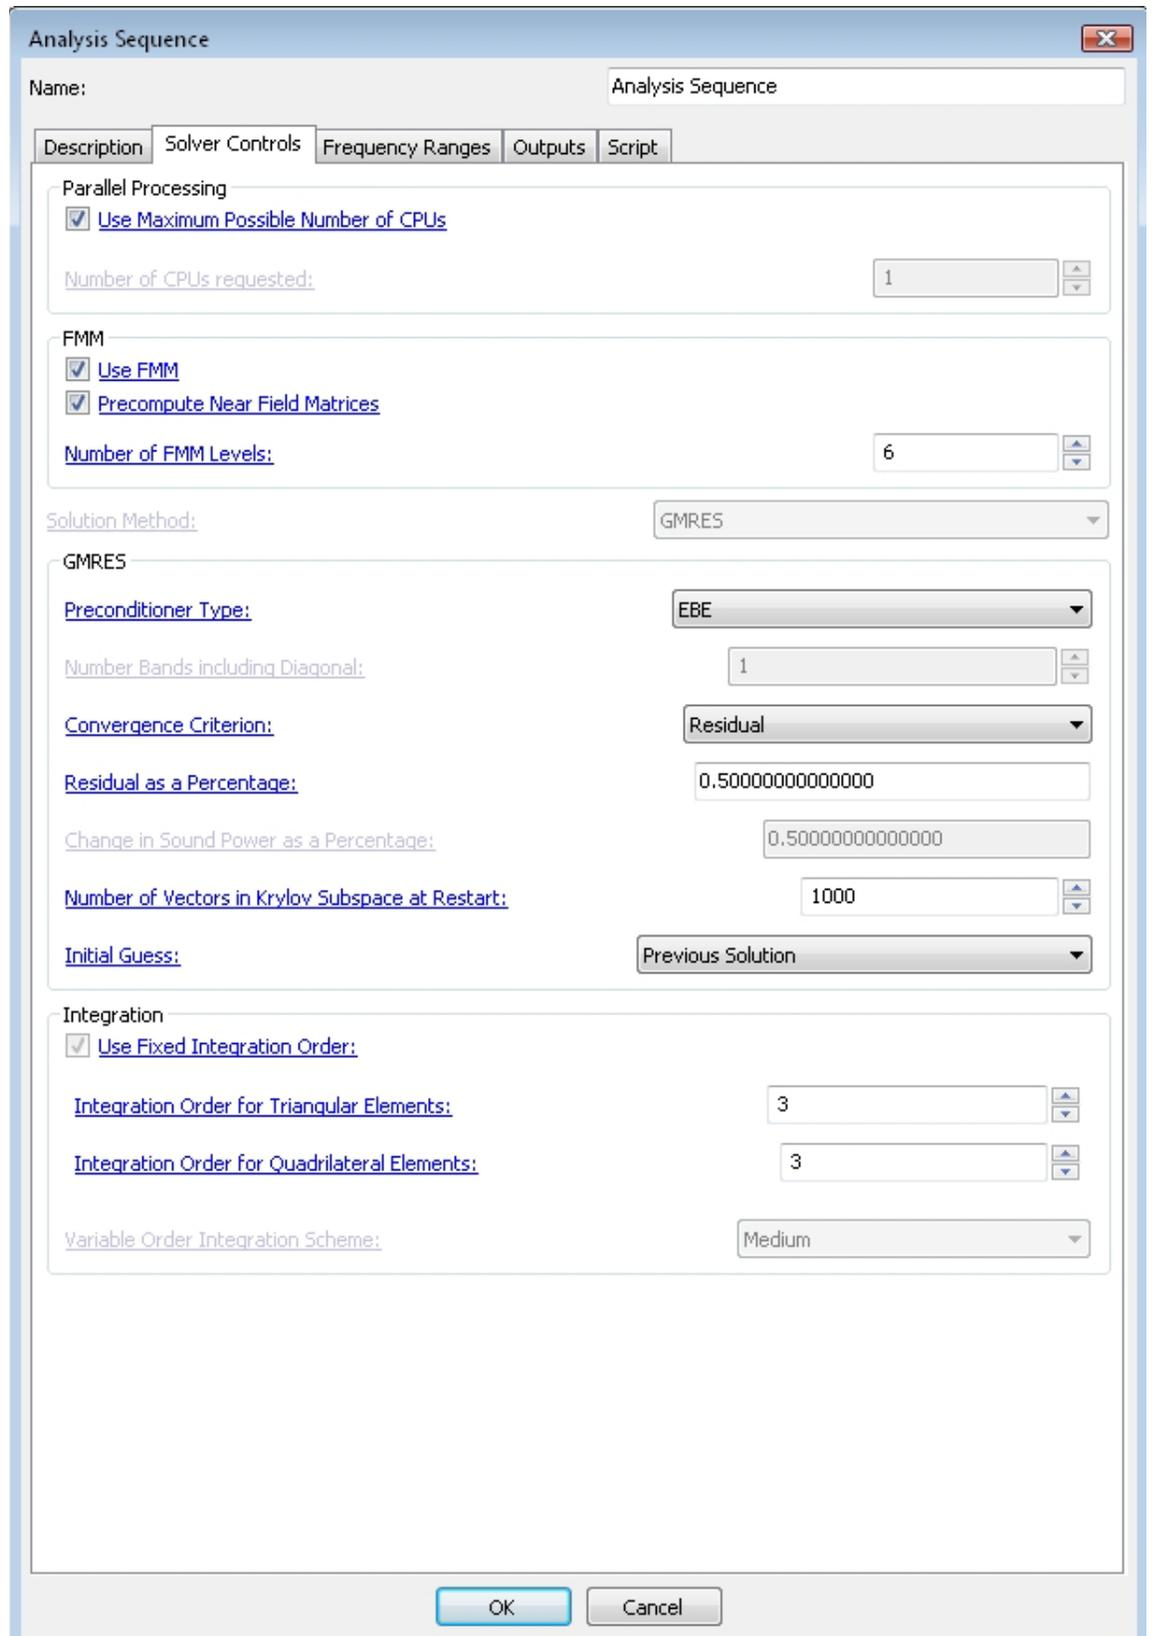

Figure A.44 Analysis solver controls.
- Select **Solver Controls** tab to set solver parameters. Refer to Figure A.44.